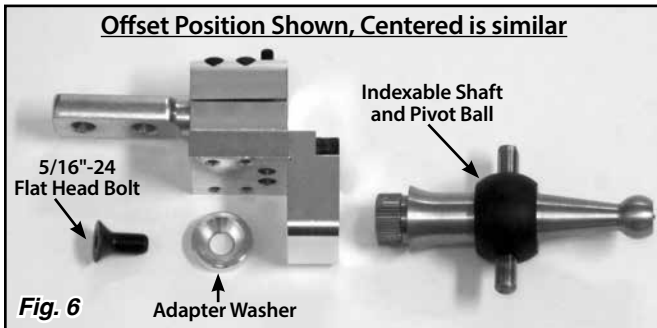

Fig. 6
Step 3: Remove the 5/16"-24 flat head bolt from the AxiShift assembly using a 3/16" Allen wrench. Remove the adapter washer, and slide the indexable base off of the indexable shaft. **Fig. 6**